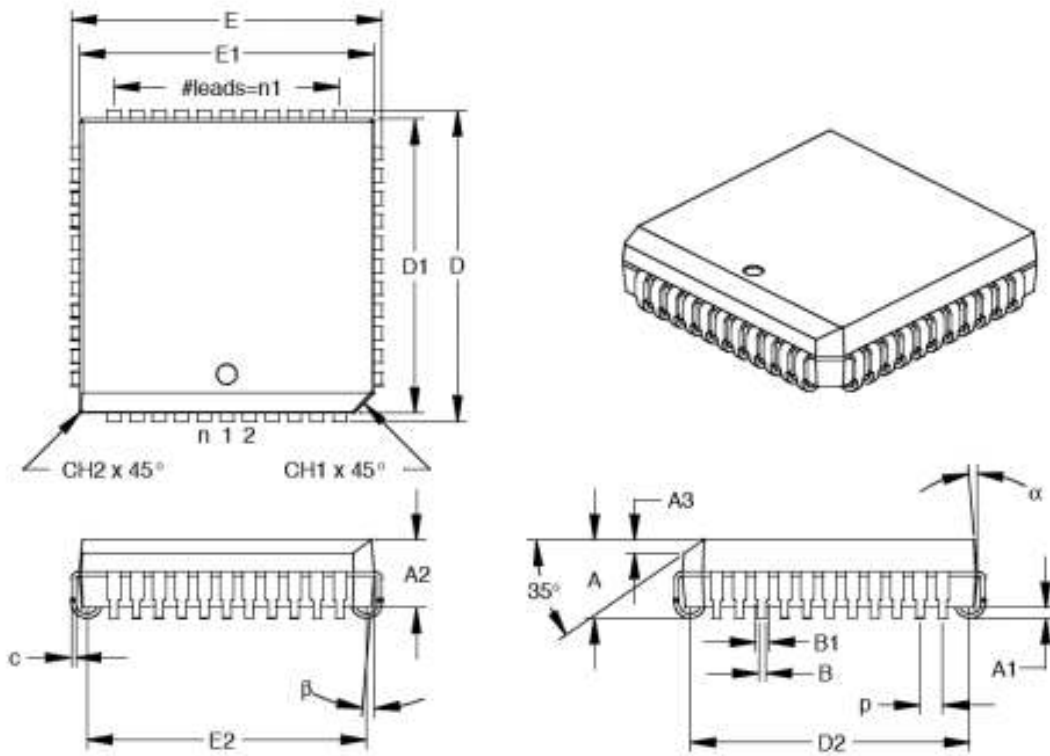

Figure 18. 44-Pin PLCC Physical Dimensions
- 44-Pin PLCC Package: Figure 18